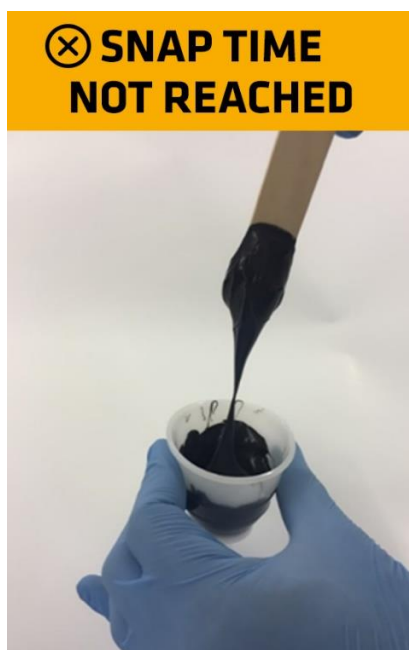
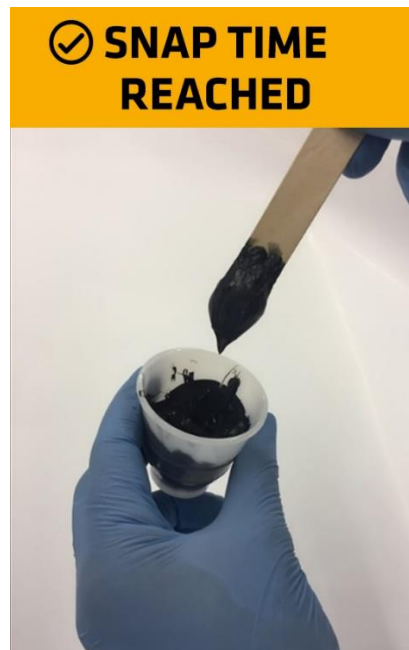

Figure 12: Material shows paste-like behavior: snap time not yet reached
Figure 13: Material shows rubber-like behavior: snap time reached
6. The snap time is the time after hand-mixing of the silicone adhesive is completed until the point it no longer forms long strings (Figure 12) when the spatula is removed, but breaks off in short length (Figure 13).
6. The snap time is the time from extrusion of the adhesive until the point it no longer forms long strings (Figure 12) when the spatula is removed, but breaks off in short length (Figure 13).